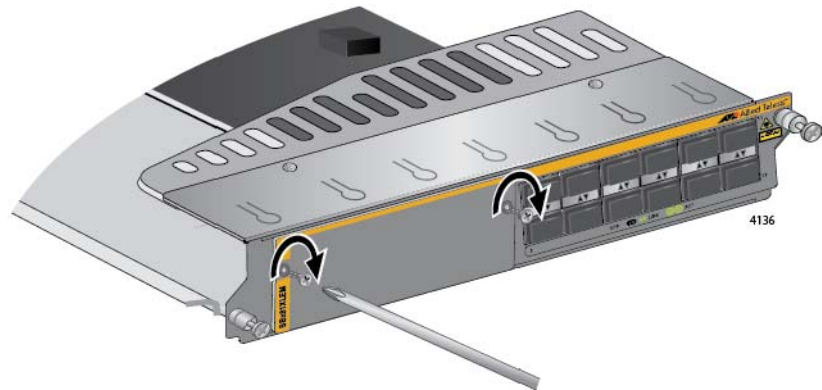

Figure 178. Securing the Blank Slot Cover
10. Secure the blank slot cover to the card with a Phillips-head screwdriver and the two screws removed in step 3. Refer to Figure 178.